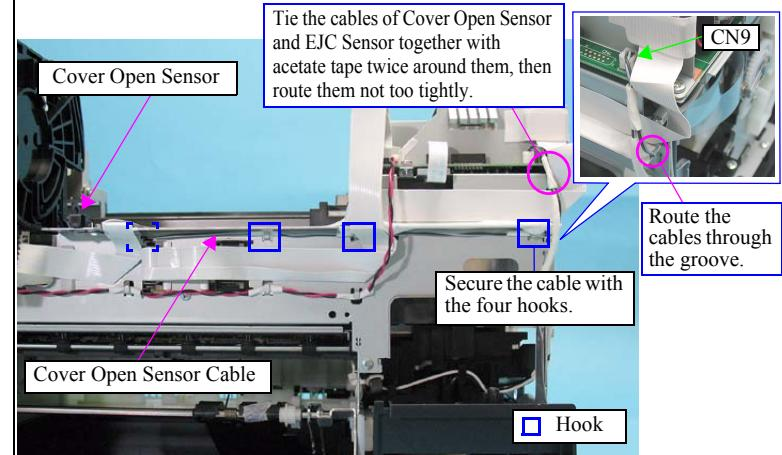

Figure 4-46. Installing the Cover Open Sensor
1. Disconnect the Cover Open Sensor Cable from CN9 connector on the Main Board. See Figure 4-46.